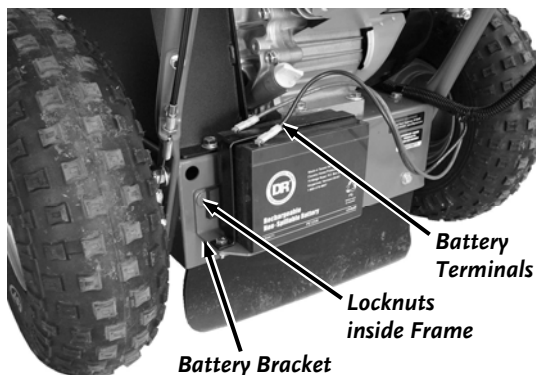

Figure 16
1. For Electric Start machines you will first need to disconnect the Battery Terminals and remove the Battery Bracket by removing the two Locknuts from the Bracket Studs with a 1/2" Wrench (leave Battery attached to Bracket) (Figure 16).